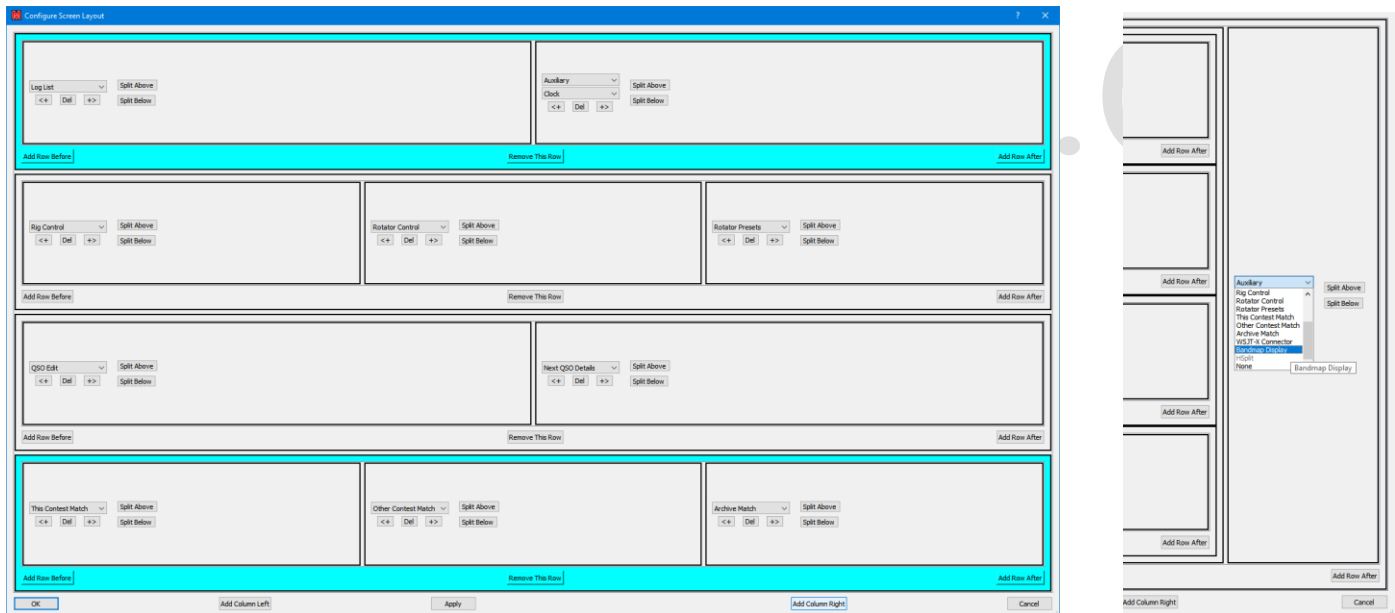

Figure 47 – Add column to left/right
- **“Add Column Left/Right”** is typically used for the Bandmap Display49 (Figure 47 right), although other panels may be configured. The extent of the column is marked by selecting top and bottom rows using (Figure 47 left) then clicking the requisite button50.